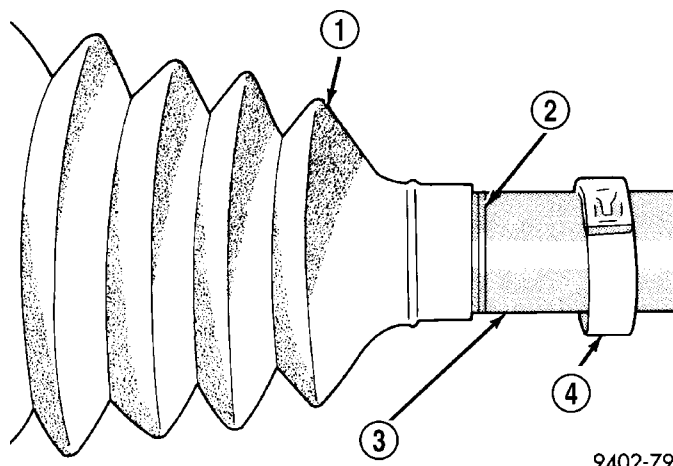

Fig. 24 Seal Boot Correctly Positioned On Interconnecting Shaft
(1) Slide inner tripod joint seal boot retaining clamp, onto interconnecting shaft. Then slide replacement inner tripod joint sealing boot onto the interconnecting shaft. **Inner tripod joint seal boot MUST be positioned on interconnecting shaft, so only the thinnest (sight) groove on interconnecting shaft is visible (Fig. 24).**